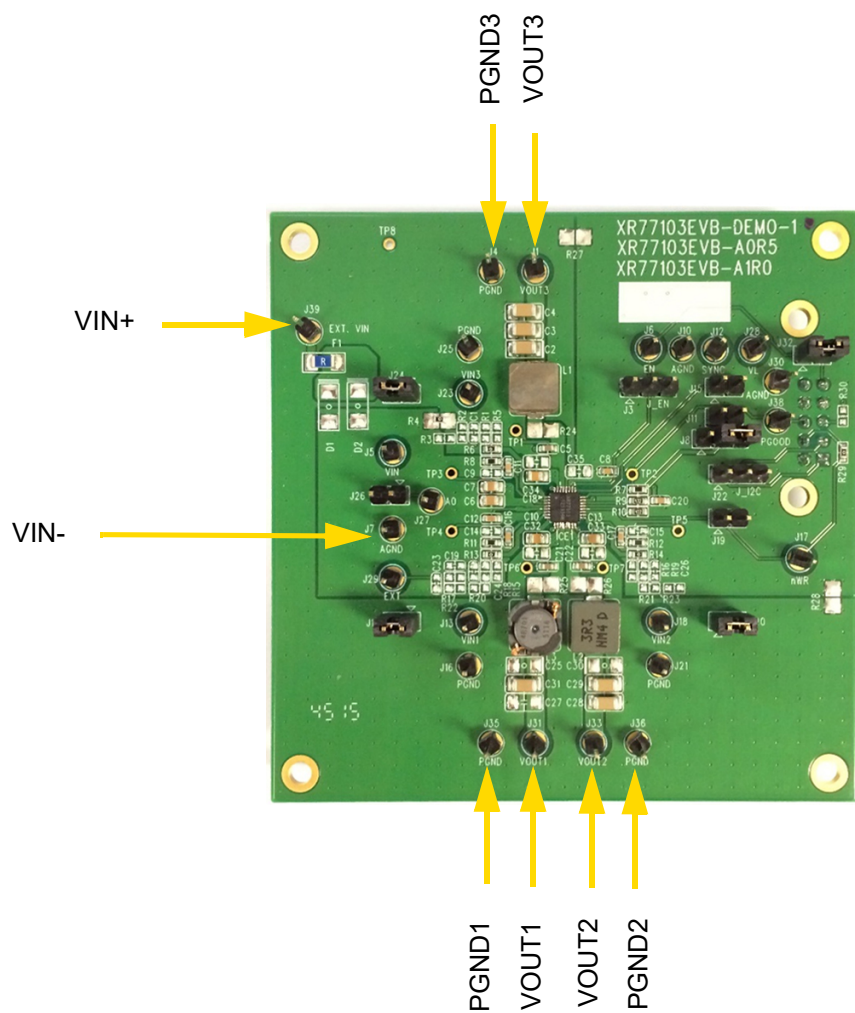

Figure 1: Connecting and Monitoring V_{IN} and V_{OUT}
2. Connect a turned-off power supply that is within the above V_{IN} specification (5.5V to 14V, 12V typical) to V_{IN+} and V_{IN-} with short and thick leads. Use test pins EXT. VIN (J39) and AGND (J7) to connect and monitor V_{IN+} and V_{IN-} respectively. See locations in Figure 1.
3. Initially set to 0A, connect electronic loads to each desired channel that will be no more than the maximum I_{OUT} (2A) to V_{OUTx} and $PGNDx$ (where x = the channel number) with short and thick leads. Use test pins in Table 1 to connect and monitor V_{OUTx} and $PGNDx$ respectively. See locations in Figure 1. For all channels with the electronic load connected, ensure that the respective V_{IN} jumper is installed per Table 1.